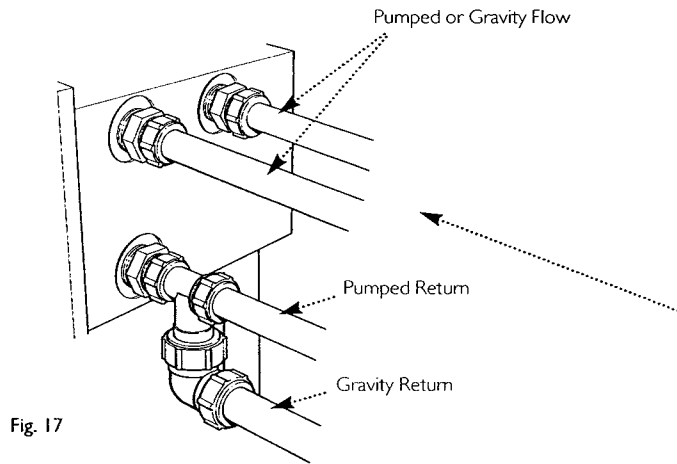

Fig. 17
6.8 Pumped Heating & Gravity Hot Water (Fig. 17)